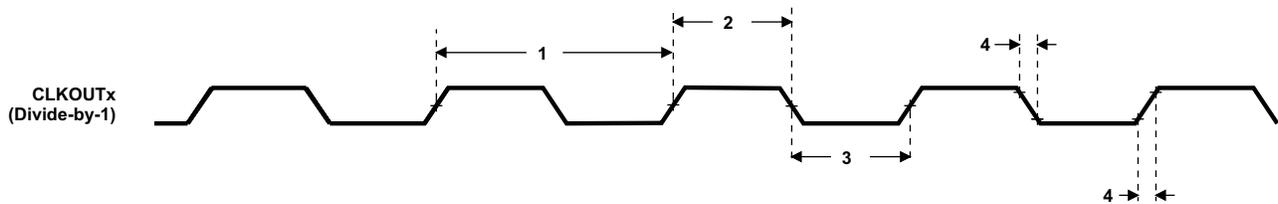

Figure 7-16. CLKOUTx Timing
Table 7-17. Switching Characteristics Over Recommended Operating Conditions for CLKOUTx (CLKOUT0 and CLKOUT1) ^{(1) (2)} (see Figure 7-16)